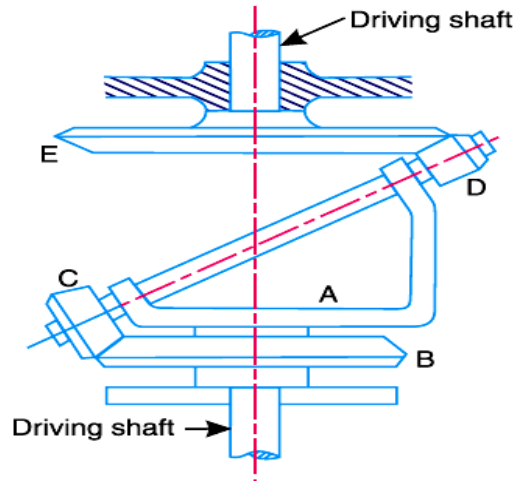

Fig: 9
- 9 a) An epicyclic bevel gear train, as shown in the fig: 9, has fixed gear B meshing with pinion C. The gear E on the driven shaft meshes with the pinion D. The pinions C and D are keyed to a shaft, which revolves in bearings on the arm A. The arm A is keyed to the driving shaft. The numbers of teeth are:  $T_B = 75$ ,  $T_C = 20$ ,  $T_D = 18$  and  $T_E = 70$ . Find the speed of the driven shaft, if i) the driving shaft makes 1000 r.p.m., and ii) the gear B turns in the same sense as the driving shaft at 400 r.p.m., the driving shaft still making 1000 r.p.m. [8M]